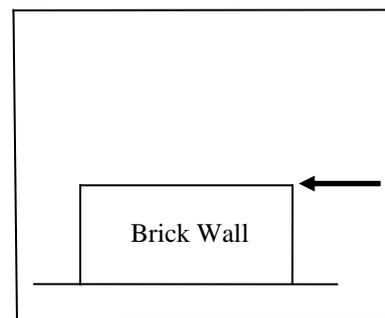

Figure 4 – Shear Wall
- **Shear** – if the supporting structure has walls rather than beams and columns, these walls can be used to resist the lateral loads, i.e. a shear wall (See Figure 4).